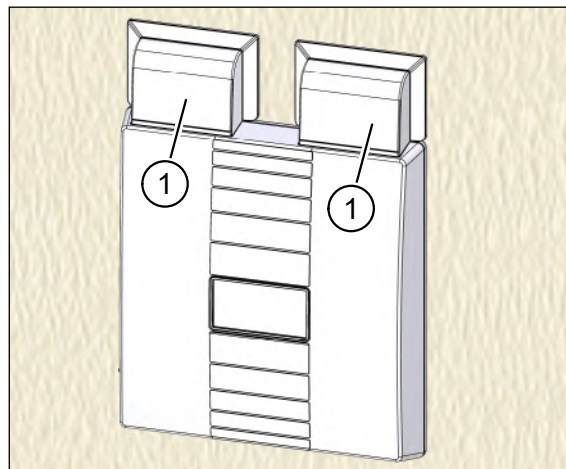

Fig. 51: Fixing the duct adapter
- ▶ Fix the duct adapter (item 1 in Fig. 51) as described in the relevant assembly instructions (see section “1.11 Supplementary documents” on page 8).